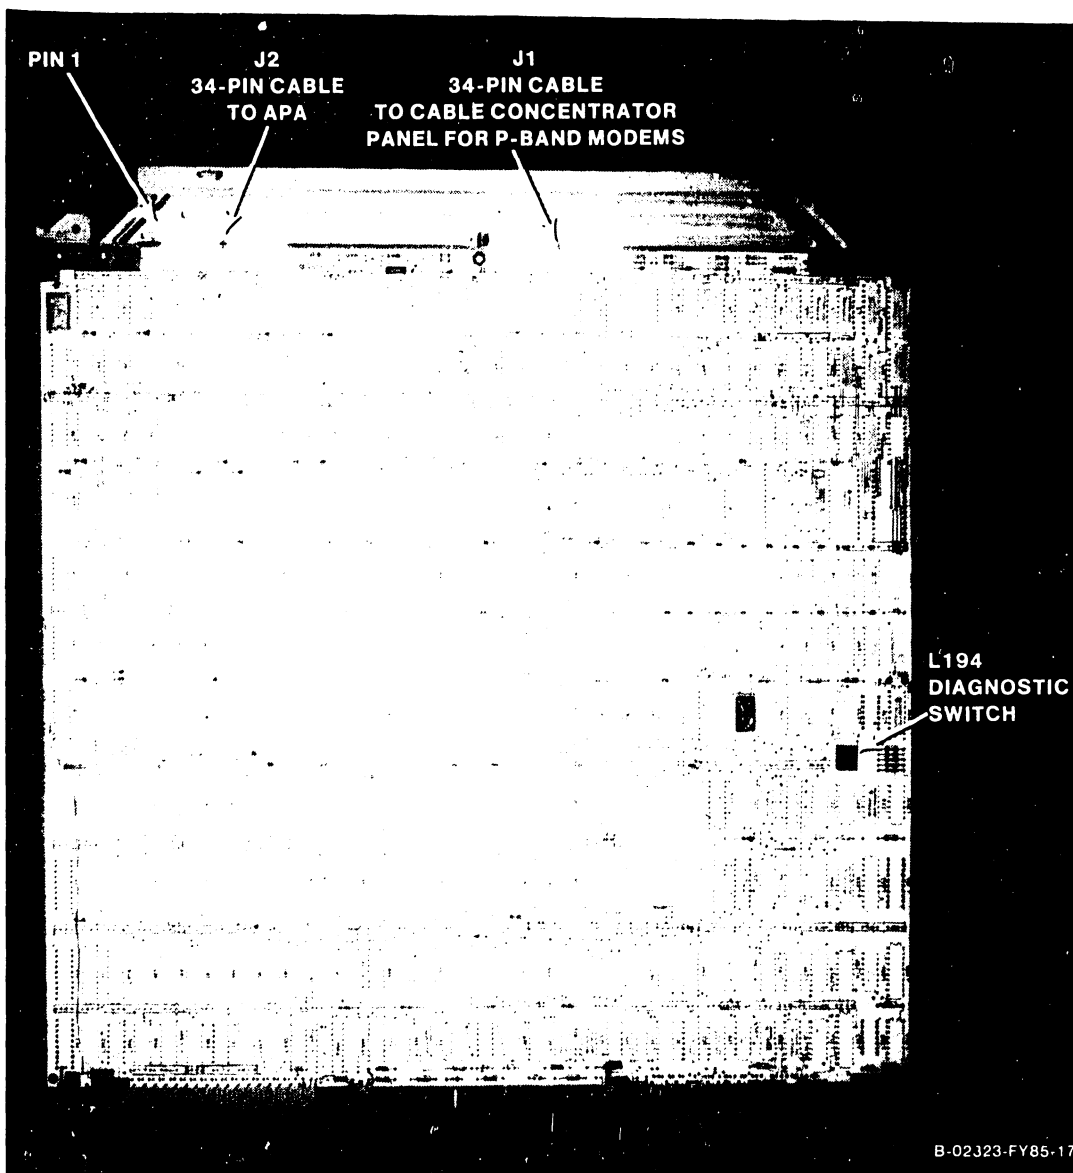

Figure 7-23. 23V67 Serial IOC
2. Disconnect all cables from the top of the 23V67 Serial IOC (figure 7-23). Note the position of all cables for later reassembly.